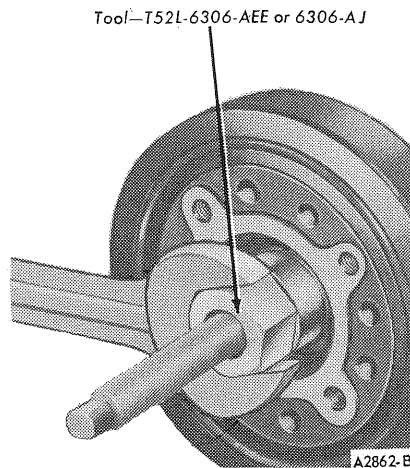

FIG. 55 Installing Crankshaft Vibration Damper
12. Line up the crankshaft vibration damper keyway with the key on the crankshaft. Install the vibration damper on the crankshaft (Figure 55). Install the cap screw and washer. Tighten the screw to specifications. Install the crankshaft pulley.